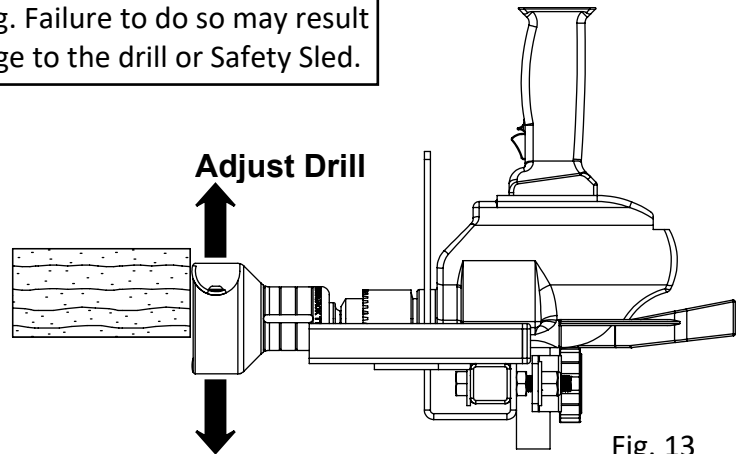

Fig. 13
3. Adjust the drill by either lifting or lowering as shown in Fig. 13 until the log is vertically centered on the tenon cutter
3. Center drill vertically (Fig. 13) as-needed